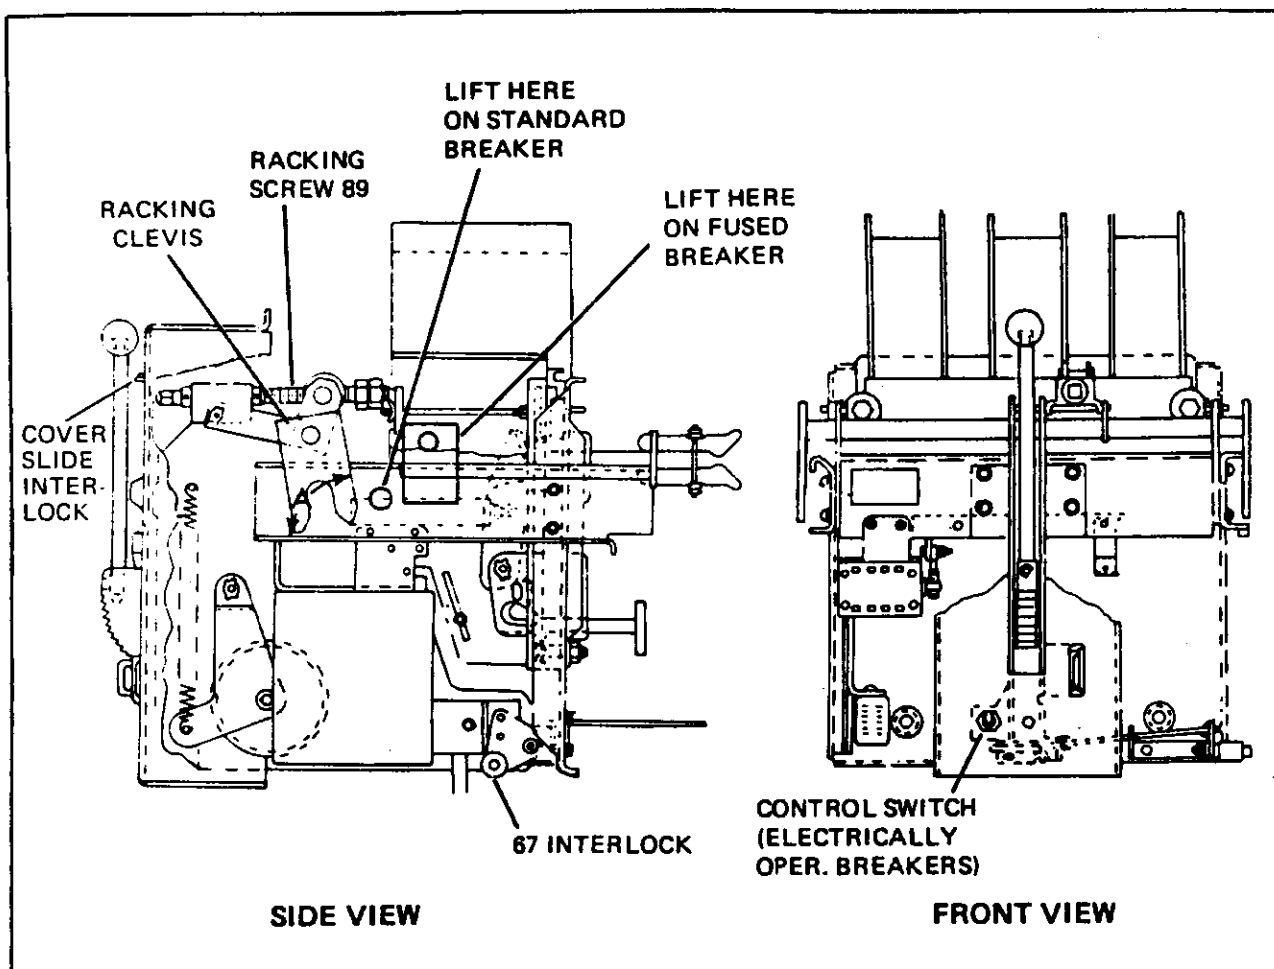

Figure 3A. Typical Racking Mechanism and Drawout Interlock.
2. With the racking crank, rotate the racking screw (89) until the racking shaft is in the disconnected position. The clevis can now engage the racking pins in the cubicle. The circuit breaker should now be pushed along the rail into the DISCONNECTED position. Double check that the racking clevis does engage the pins in the cubicle.
3. Counterclockwise rotation of the racking screw will rack the breaker into the TEST position. At the TEST position, the cover slide interlock can be closed, allowing the trip bar to reset and the circuit breaker can be operated. Between the TEST position and the CONNECTED position, interlock IT67 Figure 3A will engage the cubicle interlock cam IT509 Figure 3A and the circuit breaker will be held TRIP FREE and cannot be closed.